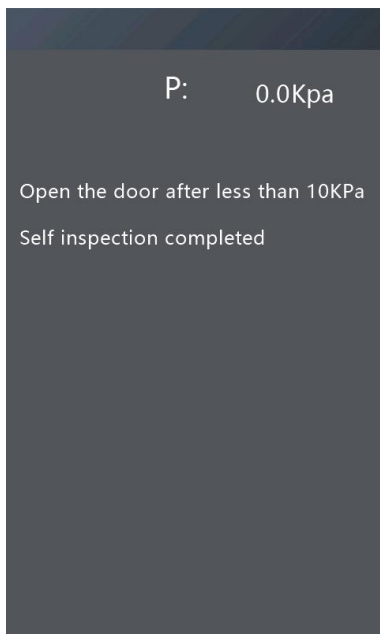

Fig 3-5
1. Turn on the power, the self-testing result will be shown as Fig3-5. If the pressure value is more than 10Kpa, you should do the PRESSURE CORRECTION. In the set up, enter the password (777777) for the PRESSURE CORRECTION.